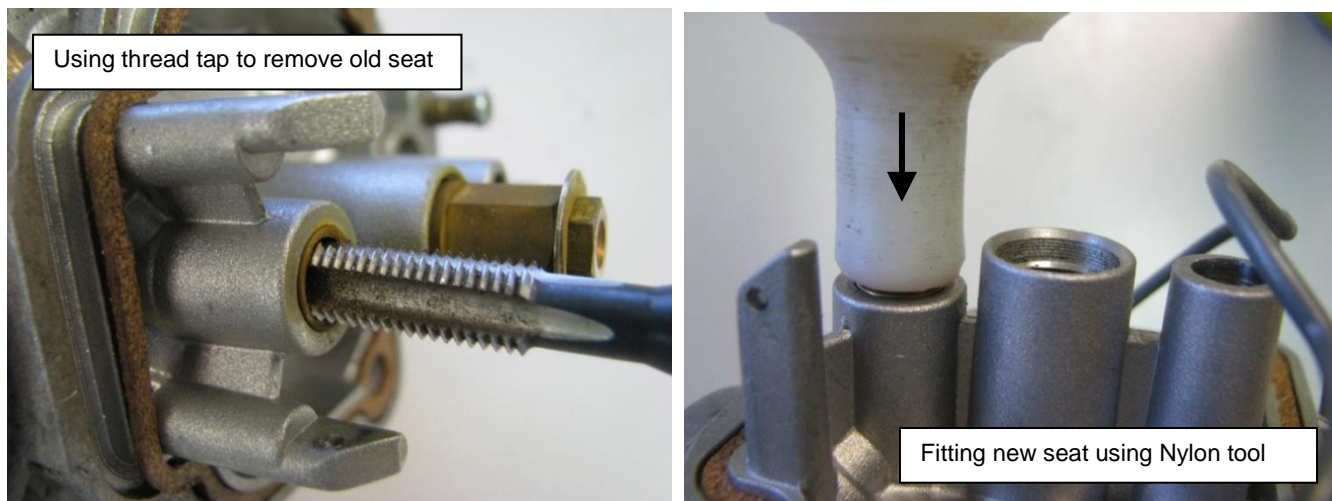

Figure 112 – Fitting New Float Needle Seat
- The float bowl needle seat must be checked. 3300 engines use a 2.4mm diameter, specially shaped orifice in this part while the 2200 engine uses 2.0mm – though the 2.4mm seat is also acceptable for 2200 applications. Figure 30 shows the tools needed to change the seat which is located in the carburettor body above the float needle. As noted at Figure 30, if the seat is to be changed a tap is used to remove the old part and a special nylon drift used to install the new. More details of this process are included in Section Figure 112.